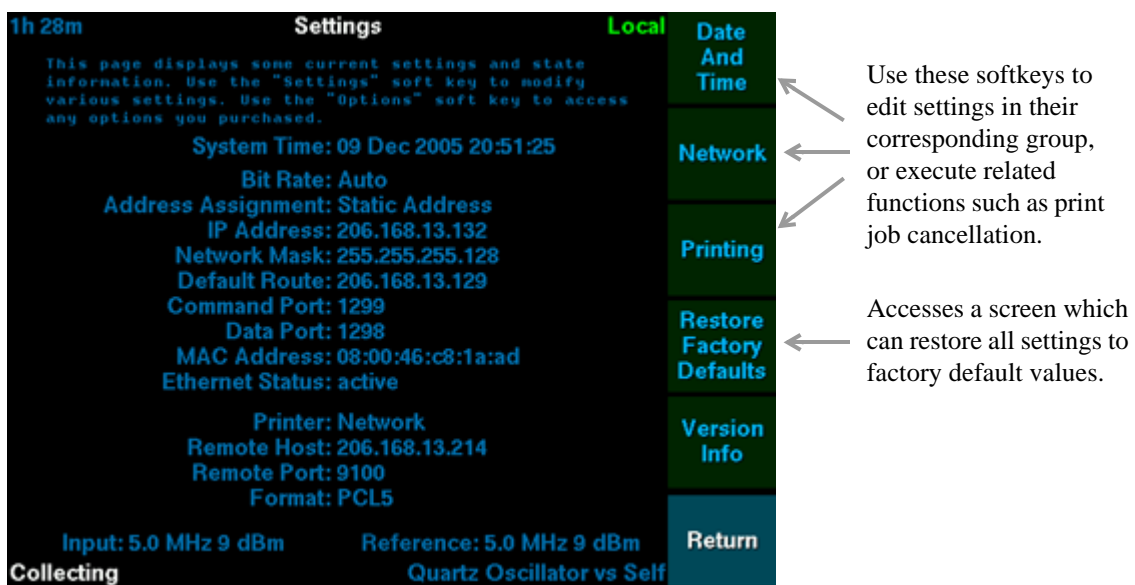

Figure 8: Settings Screen
2. Press **Settings** to access the Settings Screen (shown in Figure 8 on page 21).
If your network has a Dynamic Host Configuration Protocol (DHCP) server and the *DHCP* assignment method is selected, the IP address does not have to be configured. Once the test set is connected to the network, it should receive an IP address from the server. The address of the test set must be determined in order to make a network connection from another computer. It can be found in “Figure 8: Settings Screen” on page 21 (your system's address will vary from that shown in the figure).